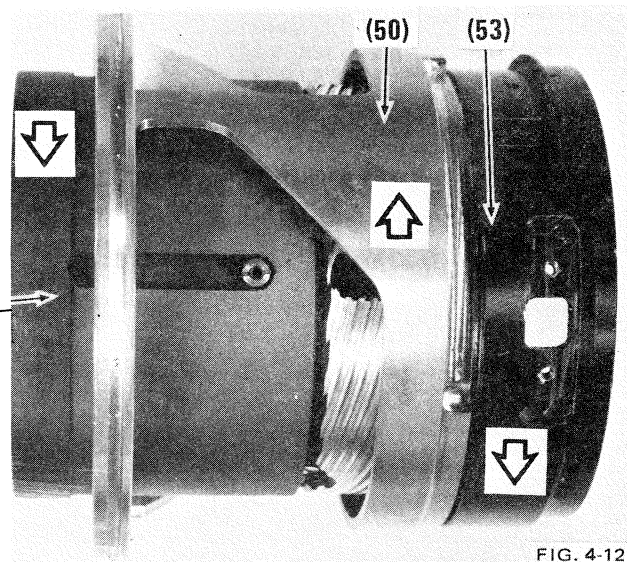

FIG. 4-12
- e) Rotate inner helicoid assembly free from middle helicoid (50). Unscrew outer helicoid (53) from middle helicoid. Fig. 4-12.
- Grasp middle helicoid (50) and outer helicoid (53); rotate in direction of arrows until inner helicoid clears helicoid guides. Fig. 4-12.
- Unscrew outer helicoid (53) from middle helicoid with helicoid guides attached.